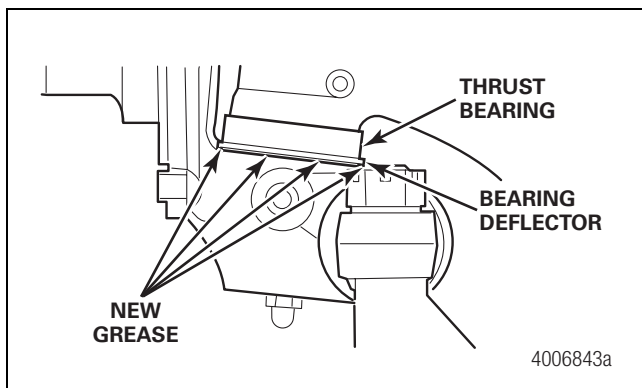

Figure 6.32
6. Apply lubricant into the bottom grease fitting until new grease appears from under the lower lip of the bearing deflector. Figure 6.32.